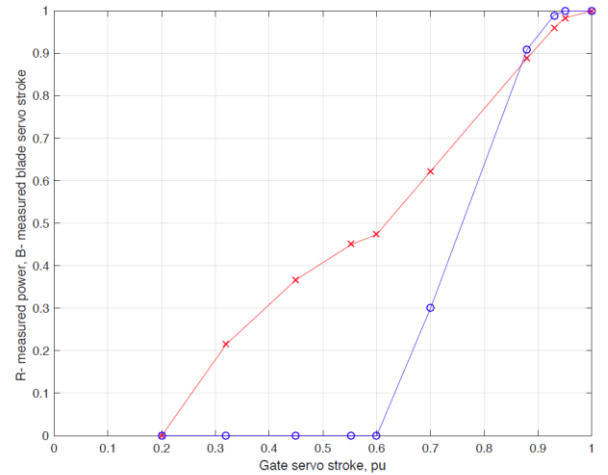

Figure 5: Typical power-gate and blade-gate curves for Kaplan turbine
- (h) For a Kaplan turbine the blade flow area curve, bgv, must pass through (0,0) and (1,1). Figure 5 shows typical curves for a Kaplan turbine.